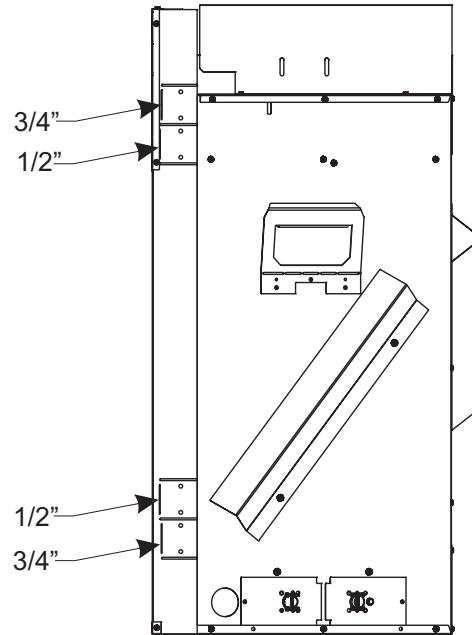

Figure 14
5. Measure from face of fireplace to face of drywall strip to determine final depth and adjust nailing flanges as shown in **Figure 14**.